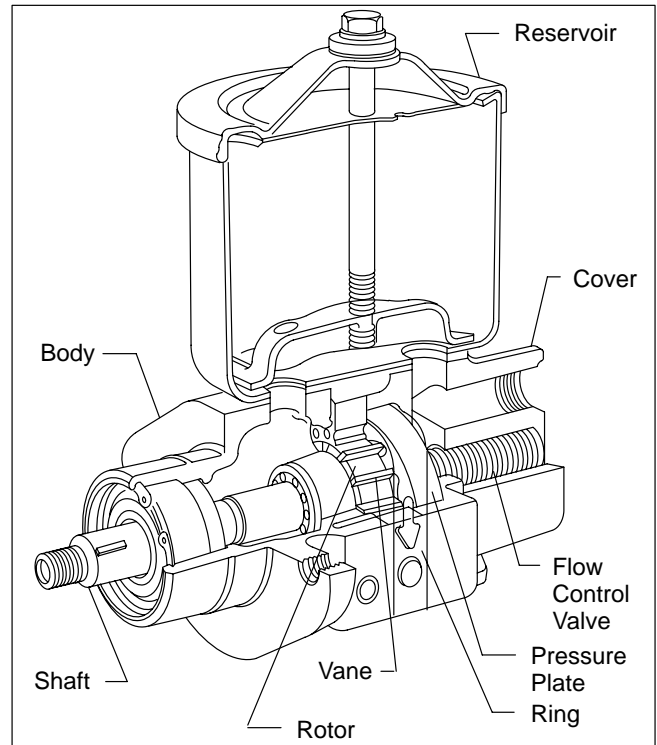

Figure 1.
1. The assembly and construction of the VT16 series pumps are illustrated in cutaway in Figure 1. The unit consists principally of a body, cover, ring, rotor, vanes, pressure plate, relief valve sub-assembly, driveshaft and reservoir. The vanes are contained in the rotor slots and follow the cam shaped contour of the ring as the rotor is driven in rotation by the driveshaft. Fluid flow is developed by the vanes carrying fluid around the ring contour.